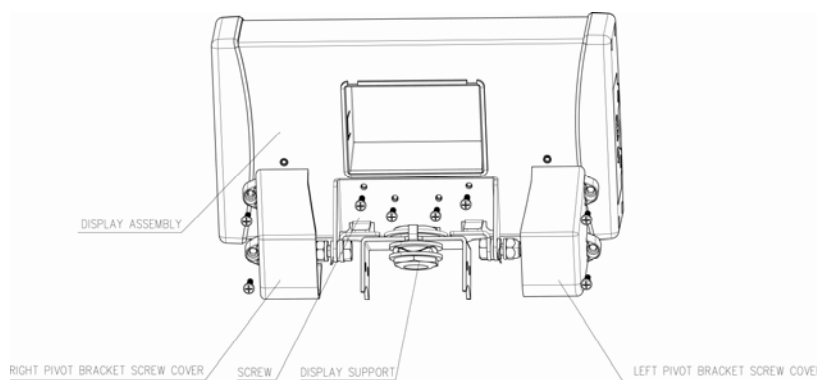

Figure 9
7. Align the four mounting holes on the back of the display assembly with the four mounting holes in the display support, and fasten the display assembly onto the metal display support using the (4) Phillips pan head #5 x 3/8 screws (see Figure 9).
8. Place the pivot bracket screw covers over the pivot screws, and fasten the covers to the back of the display assembly using the (4) Phillips pan head #5 x 3/8 screws.